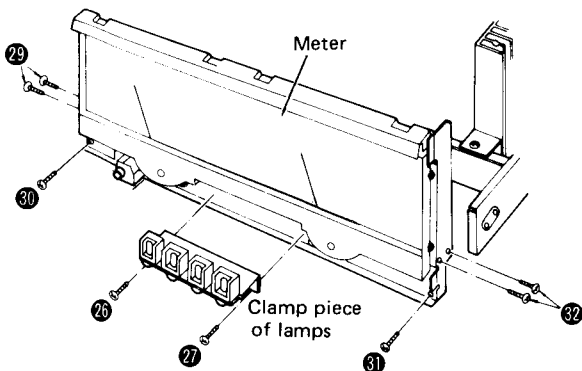

Fig. 4
2. Remove the 2 setscrews ⑳ and ㉑ (Fig. 4), and the clamp piece of lamps.
4. Remove the setscrews ( ㉓ ~ ㉖ in fig. 4) and pull out the front chassis.